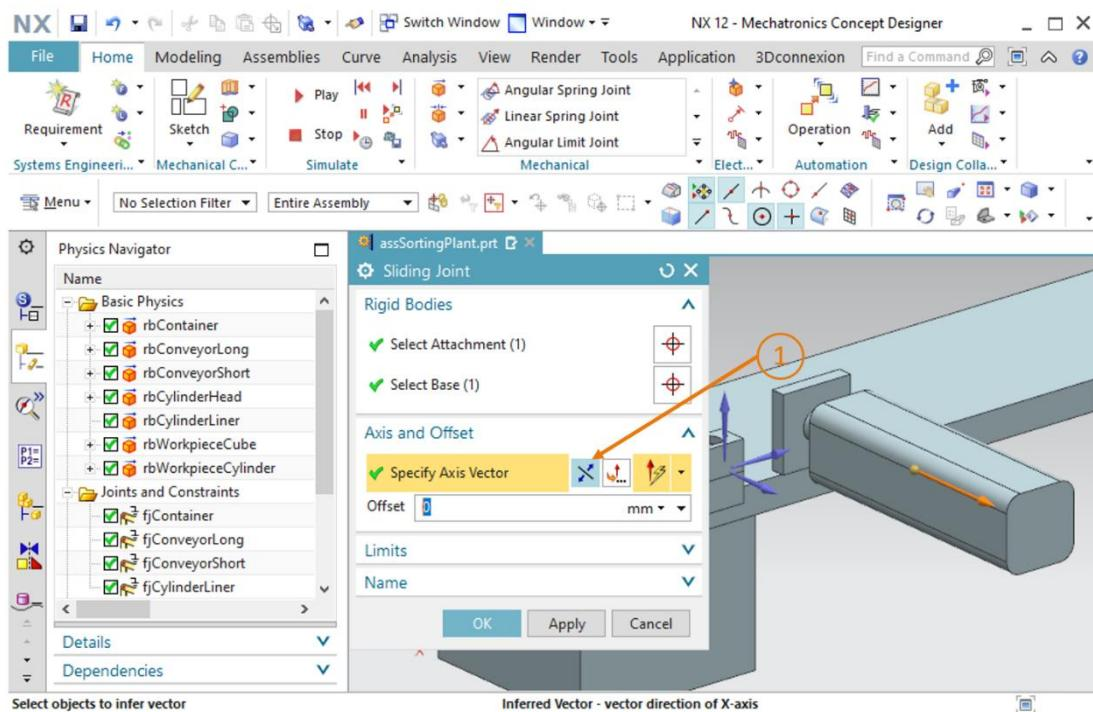

Figure 35: Creating a sliding joint for the ejector – Mirroring the axis vector
- You can tell which direction the ejector would move in by looking at the orange arrow along the ejector. Mirror the axis vector by clicking the "Reverse Direction" button because the ejector is to be extended from its initial position (see Figure 35, step 1).